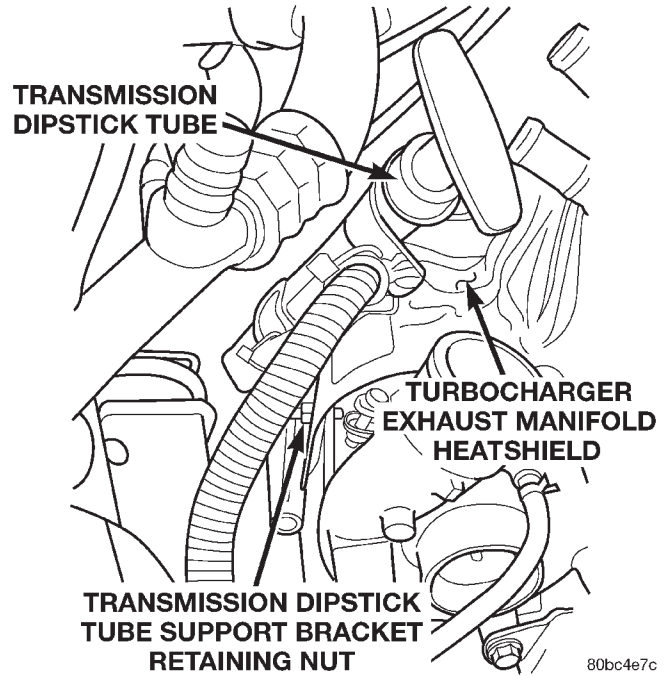

Fig. 28 Transmission Dipstick Tube Support Bracket
(28) Install the transmission dipstick tube support bracket retaining nut on the turbocharger heatshield (Fig. 28). Torque the nut to 25 N·m (221 in. lbs.).
(29) Connect the A/C compressor clutch and glow plug harness electrical connectors.
(30) Connect the black and gray 10-way electrical connectors and clip connectors on the wire harness mounting bracket.